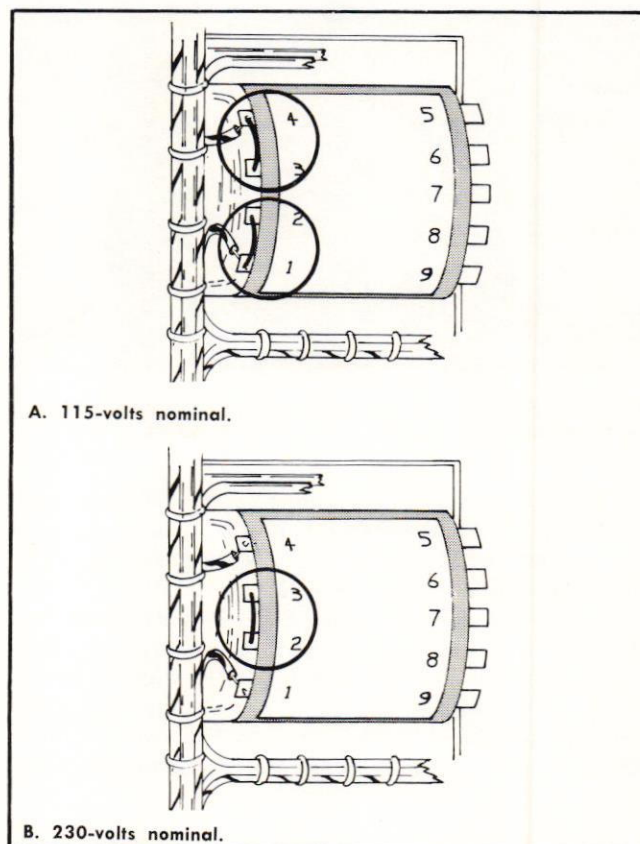

Fig. 2-1. Power transformer primary connections for 115- and 230-volt nominal operation.
2. Connect the transformer for the desired line voltage as shown in Fig. 2-1.